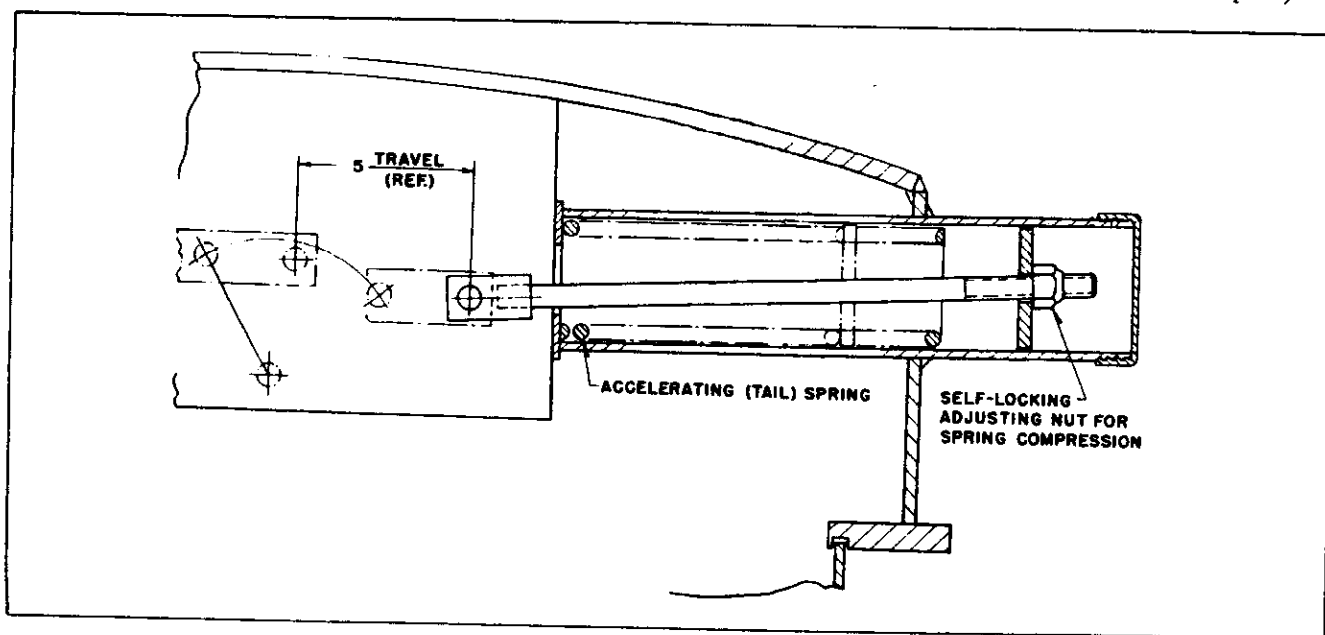

Fig. 2 Tail Spring
5. An accelerating spring (tail-spring - Fig. 2) which provides the force to open the breaker.